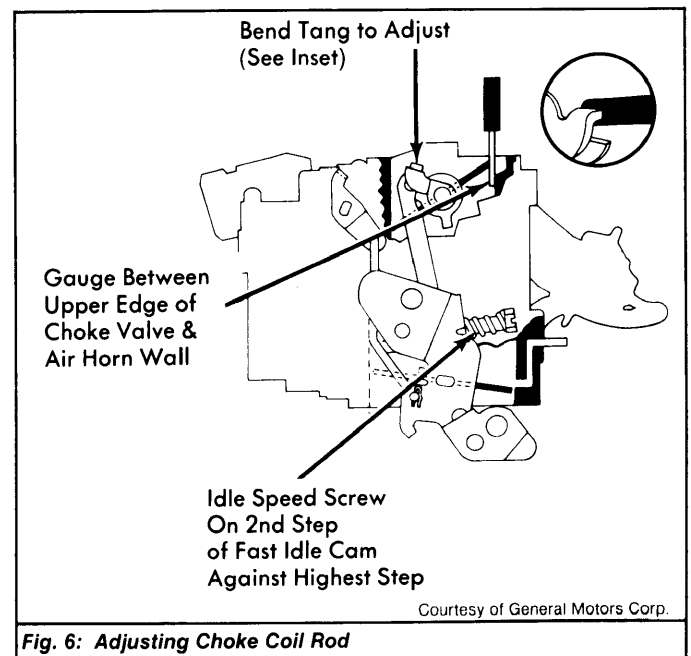

Fig. 6: Adjusting Choke Coil Rod
- 1) Ensure fast idle speed is correctly set. Place fast idle cam follower on SECOND step of fast idle cam, against HIGHEST step. See Fig. 6.